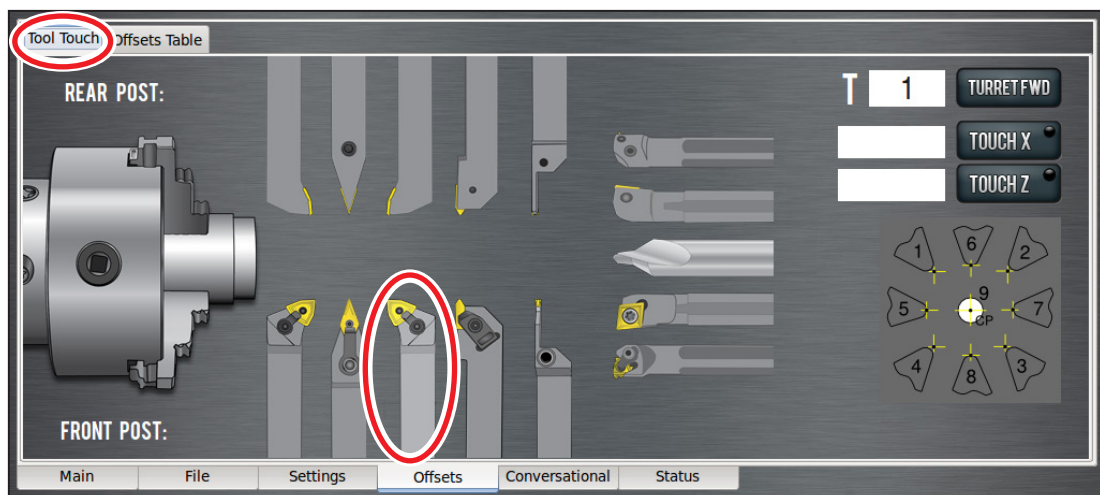

Figure 4.11
The actual method differs depending on whether you have a gang, turret, or quick change tooling setup. For the purposes of this instruction, we assume you have the quick change setup and that you have adjusted your quick change tool holders to centerline height. Make sure that there are no tool geometry offsets currently applied by clicking *Reset Tool* on the *Offsets* screen (see **Figure 4.12**), which clears the geometry offsets for the currently loaded tool. If the *Offsets* screen displays a selection of tools (see **Figure 4.11**), this indicates no tool offsets have been applied.
2. Click on the *Tool Touch* tab on the *Offsets* screen and select the front tool post, right-hand turning tool (see Figure 4.11).
5. You should see the tool type selection screen again (see **Figure 4.11**). Select the front tool post parting tool (unless using a rear tool post parting tool, in which case you should select the rear tool post parting tool).